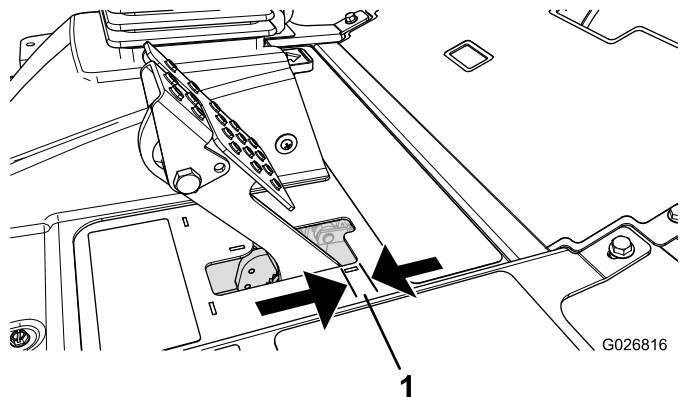

Figure 96
Adjust the brakes when there is more than 2.5 cm (1 inch) of free travel of the brake pedal, or when more holding force is required (Figure 96). Free travel is the distance that the brake pedal moves before you feel braking resistance.
2. Tighten the rear nut to move the cable backward until brake pedals have 0.63 to 1.27 cm (1/4 to 1/2 inch) of free travel, before the wheel locks up (Figure 96).